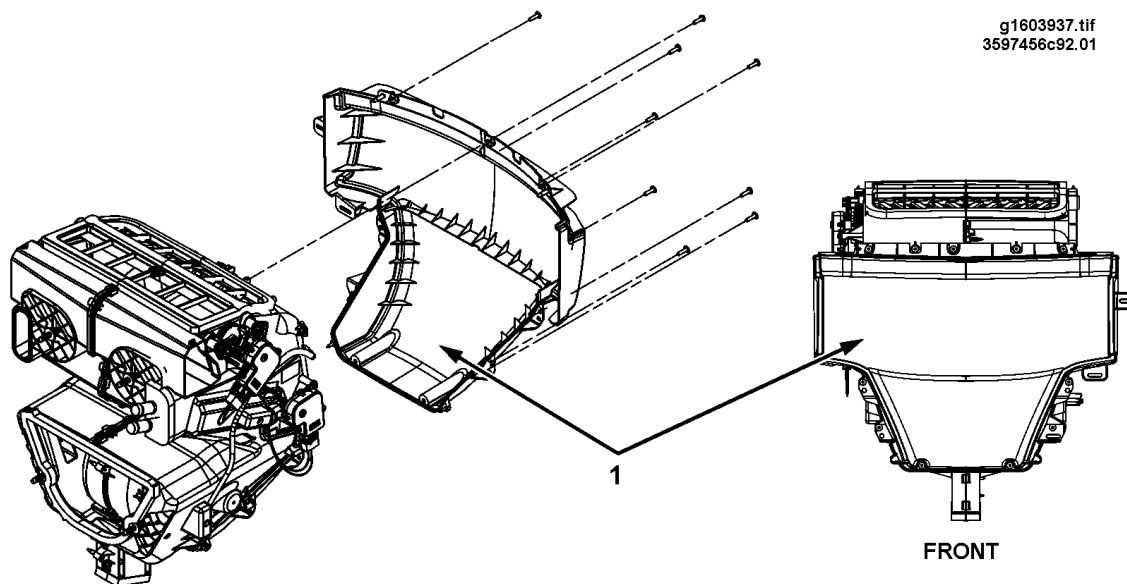

Figure 37 Heater Trim Cover
NOTE – Refer to Figure 37 while performing the following Remove and Install procedures.
2. Remove trim panels, as necessary, to gain access to mounting screws for heater trim cover (1, Figure 37).
1. Secure heater trim cover (1, Figure 37) to heater housing with nine screws.